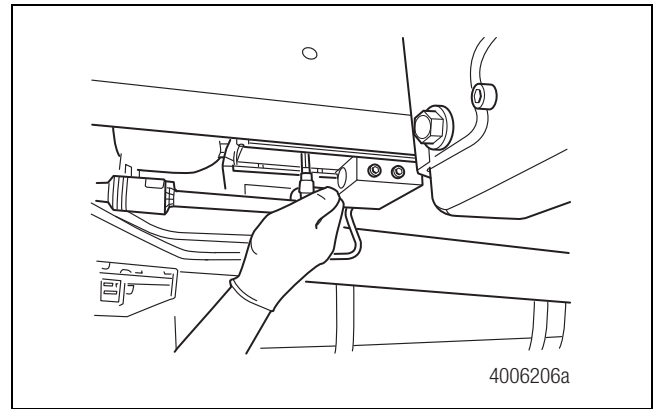

Figure 5
2. Insert the pump retaining plug into the threaded hole. Use a 6 mm hex-head socket wrench to tighten the plug to  $195 \pm 18$  in-lb ( $22 \pm 2$  N•m). Figure 5. ⚠